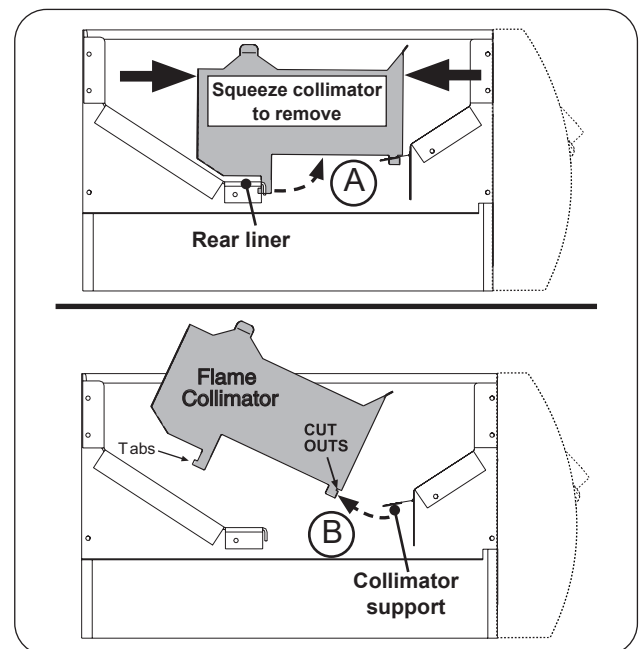

Fig. 45-2 Flame collimator removal
2. Squeeze the collimator to detach the rear tab from the rear liner as shown in Fig. 45-2, A, and lift up the rear portion of the collimator.
3. Detach the collimator from the front collimator support and completely remove the collimator as shown in Fig. 45-2, B.